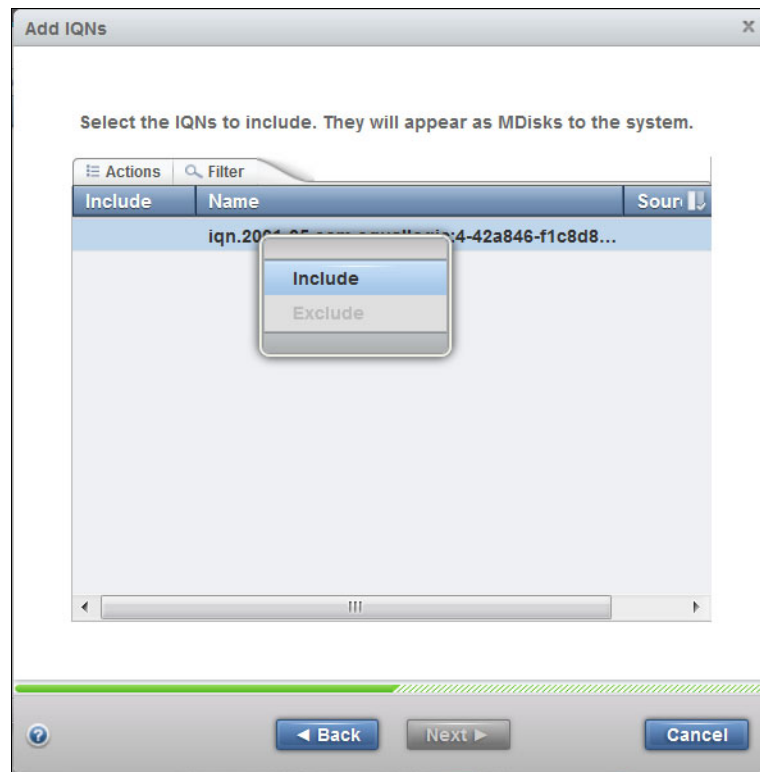

Figure 14-29 Including LUNs for connection
7. Right-click the LUNs that you want to connect to and click **Include**, as shown in Figure 14-29.